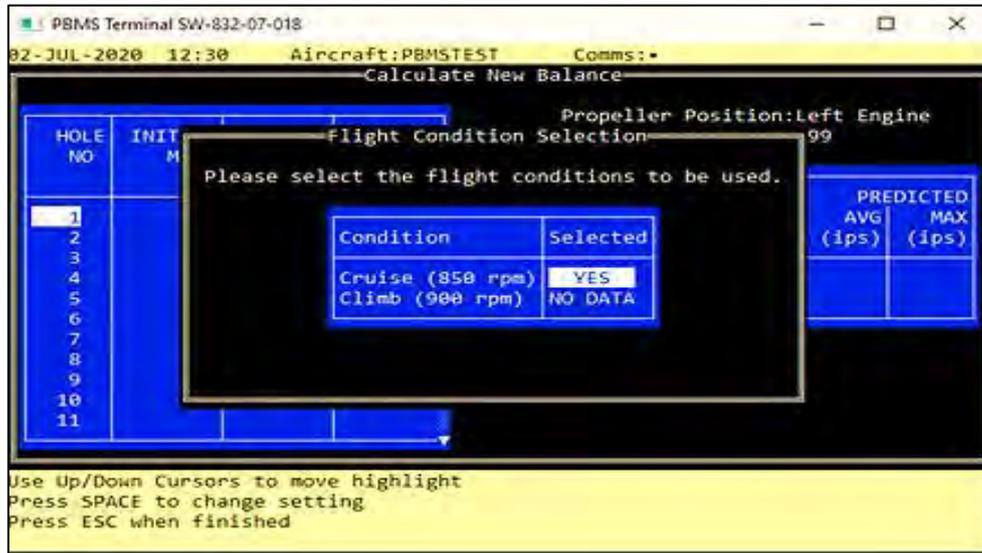

Figure 4-7 Flight Condition Selection
- (8) Once Data has been entered for all of the hole positions press the F5 Key to bring up the Flight condition Selection (**Ref Fig 4-7**) Use the Cursor key to highlight a Flight Condition with the cruise condition being the standard and use the <Spacebar> key to switch it on or off to the desired condition.